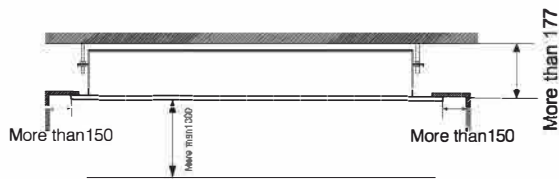

Figure 1
(1) Select the installation location that meets the following conditions and get approval of the customer.
- Where a space sufficient for installation and service can be ensured. (Refer to **Figures 1 and 2**)